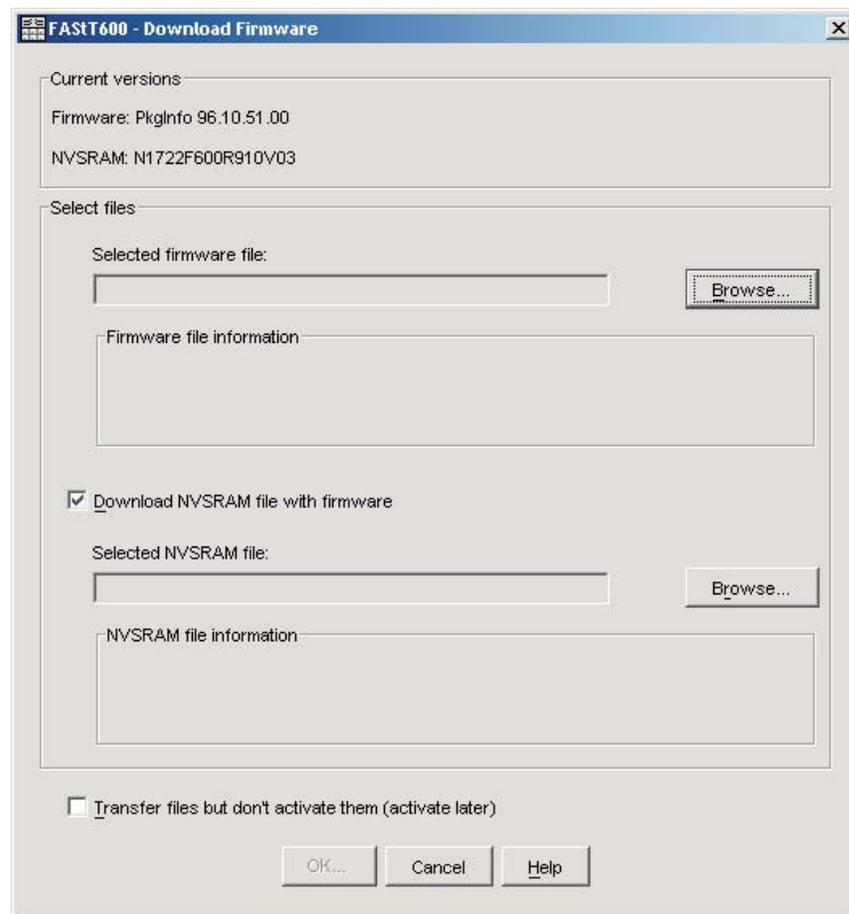

Figure 26. Download Firmware window
3. Click **Advanced** → **Maintenance** → **Download** → **Controller firmware....** The download firmware window opens as illustrated in Figure 26.